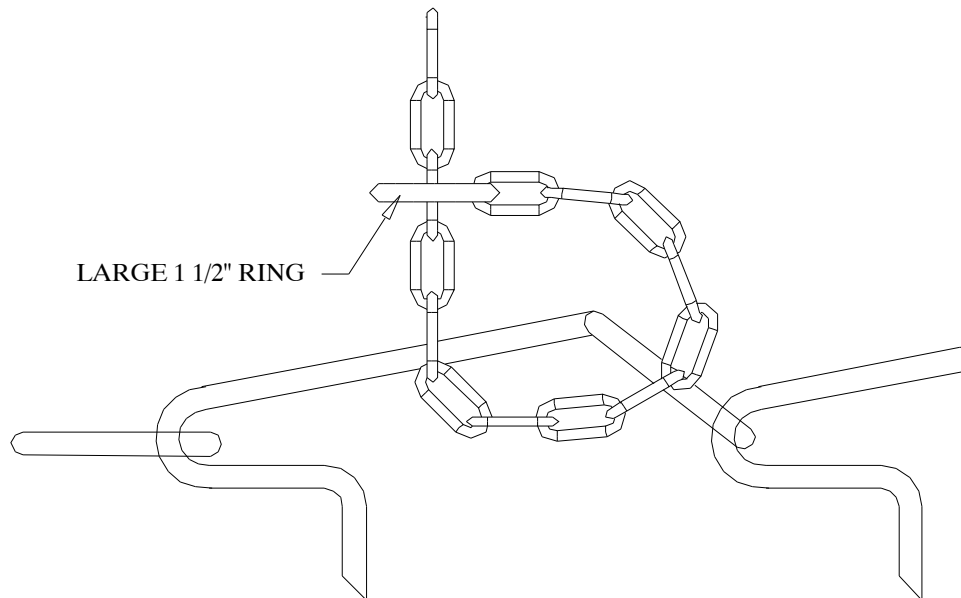

Figure 9
5. Do Not bolt the rear lift chain on. Refer to this figure only after the rear lift chain has been attached to the section as shown in figure 9.